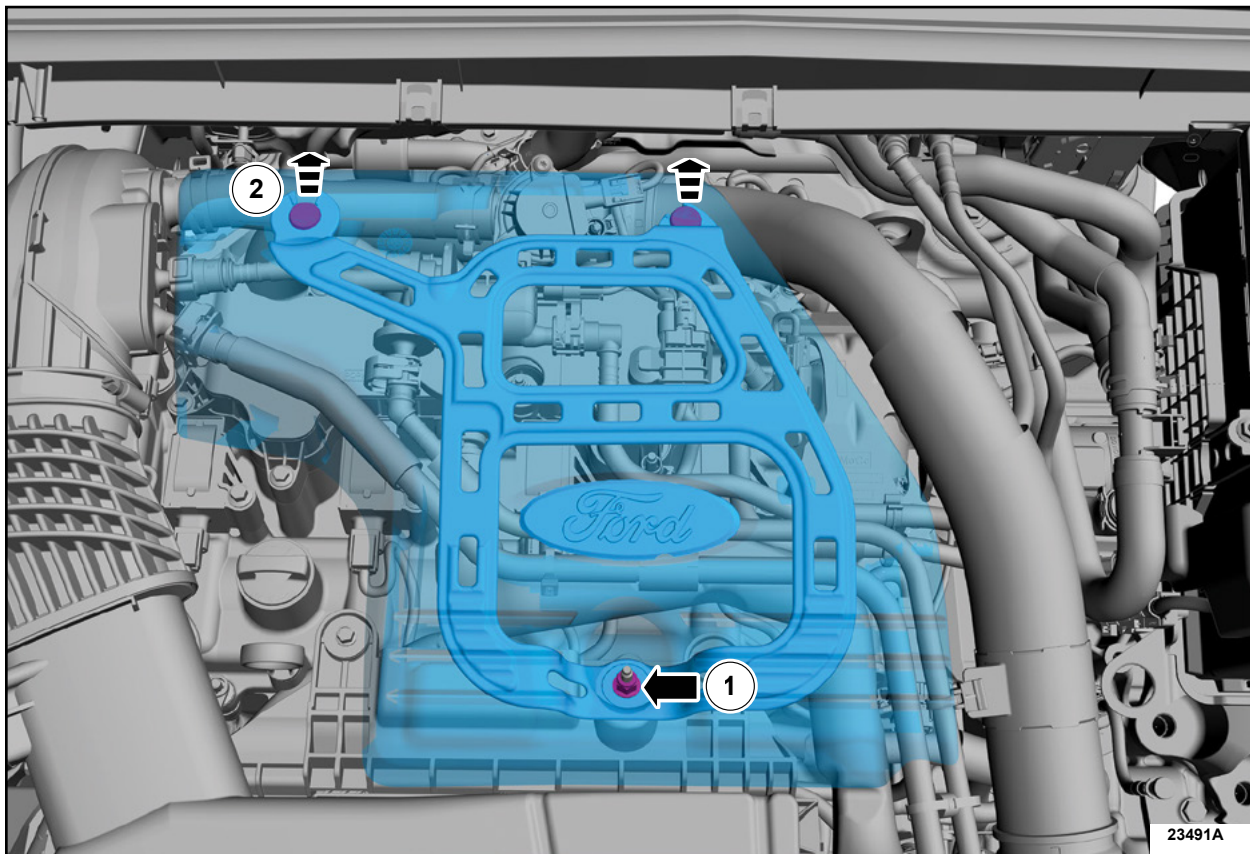

FIGURE 1
3. After all of the grommets have been released from the studs, remove the appearance cover from the engine. See figure 1.